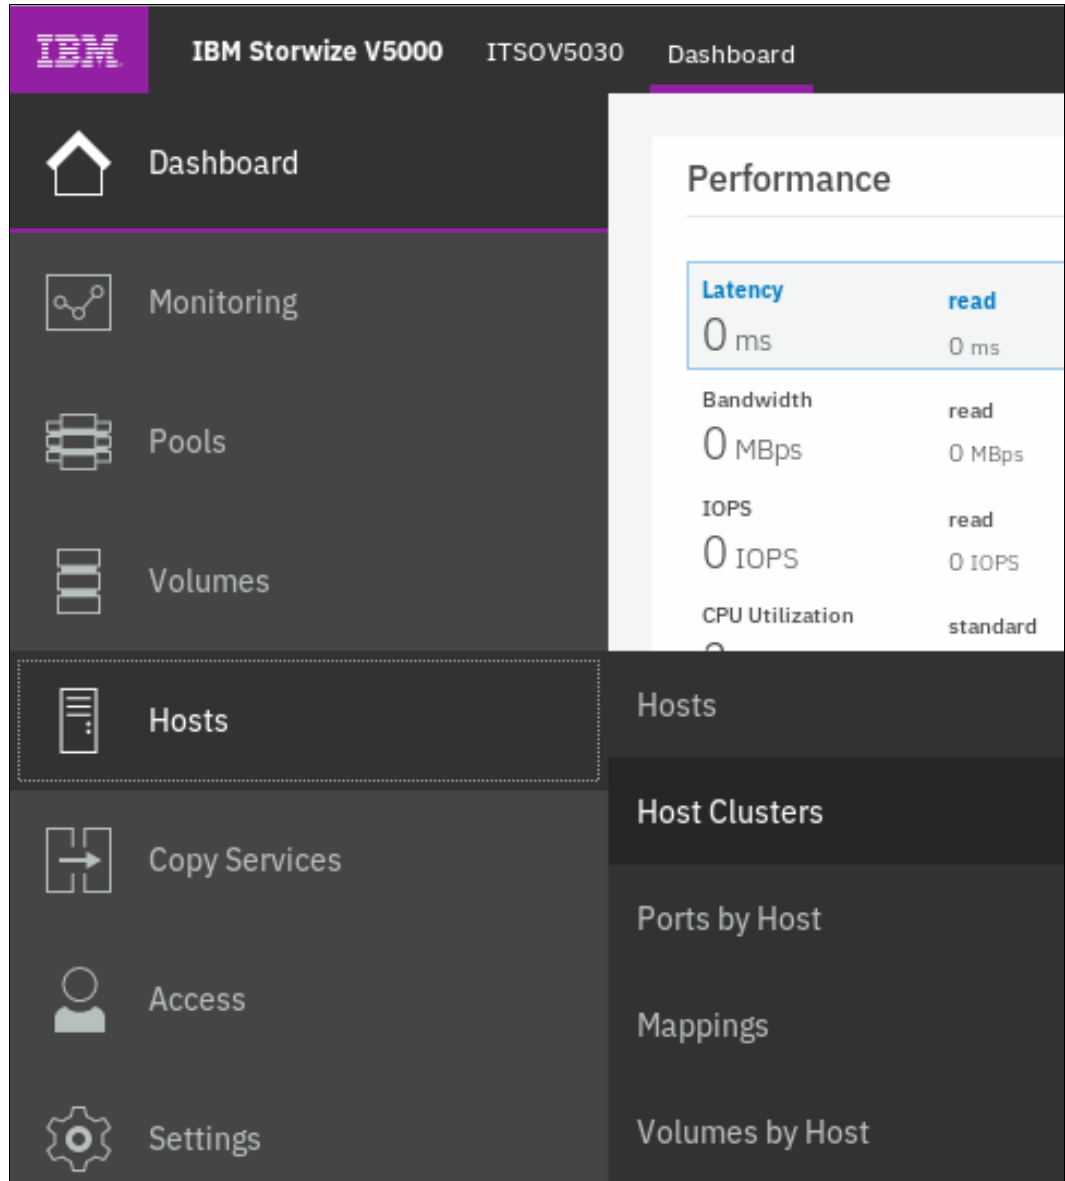

Figure 5-109 Host Clusters
1. Select the **Hosts** option under the **Host Clusters** section on the main window, as shown in Figure 5-109.